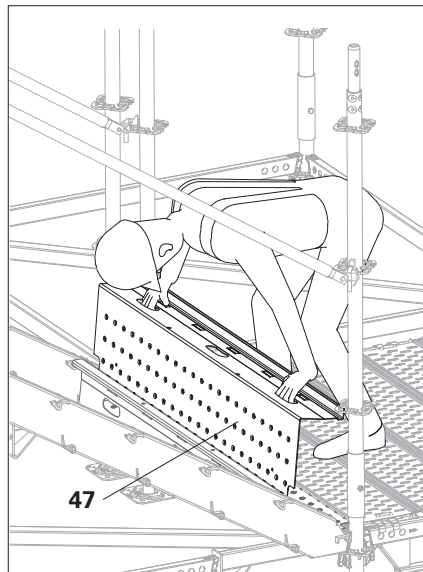

Fig. A4.02
1. Pick up the step with the back of your hand facing upwards at the grip holes and press down vertically with the heel of your hand or thumb. (Fig. A4.02)